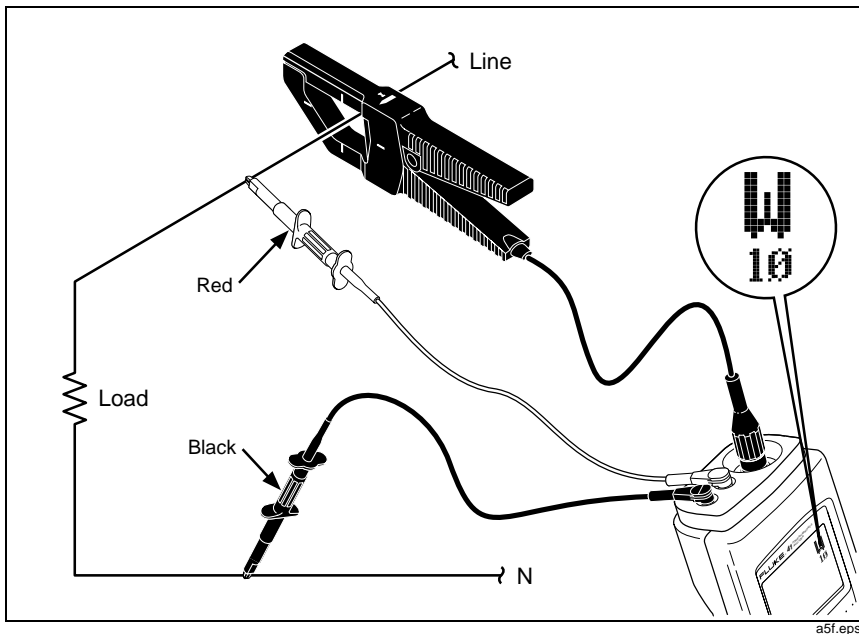

Figure 4. Measurement Connections (1.0)
Refer to Figure 4 for a view of the two-input measurement scheme. To measure voltage, insert the red test lead in “V” and the black test lead in “COM.” Current measurement uses a BNC connector attached to “CURRENT PROBE.” Connect “V” and “COM” to measure only voltage; connect “CURRENT PROBE” to measure only current. Make all three connections for power measurements.
*Figure 4 shows suggested test lead and current probe usage.*